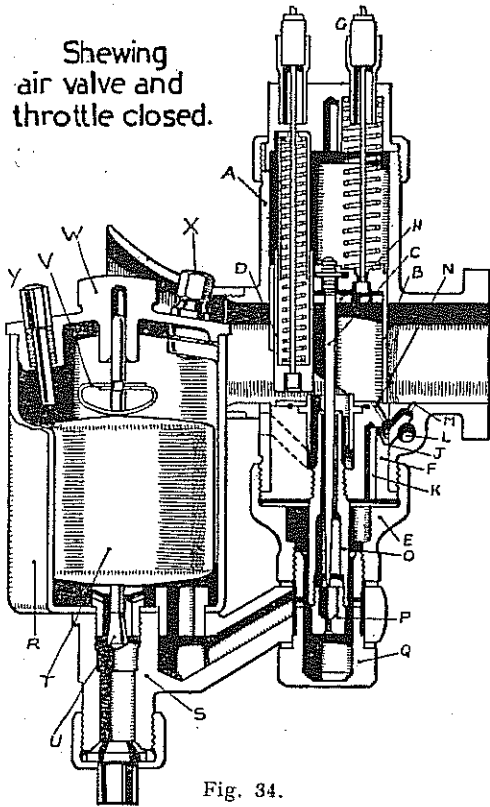

Fig. 34.
89. DISMANTLING OF THE CARBURETTER. (Fig. 34.)